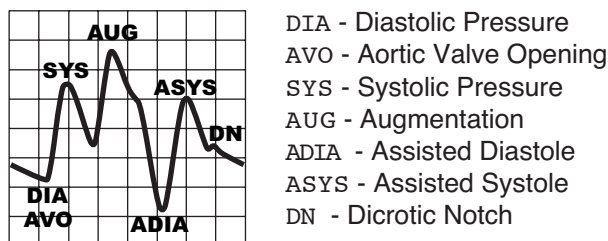

Figure 6.3: Arterial Pressure Waveform (Optimum Timing)
- Compare the AP waveform to Figure 6.3. Note the V-shaped curve between the AUG and AUG peaks. AUG should be greater than SYS.
- Compare the AP waveform to that in Figure 6.3. Assisted SYS should be less than SYS, indicating the effectiveness of counterpulsation. Assisted DIA should be less than DIA.
Compare the AP waveform with those in Figure 6.3 to ensure that you have achieved optimum timing.
If your AP waveform does not resemble that in Figure 6.3, repeat steps 1-3 to achieve optimum timing.